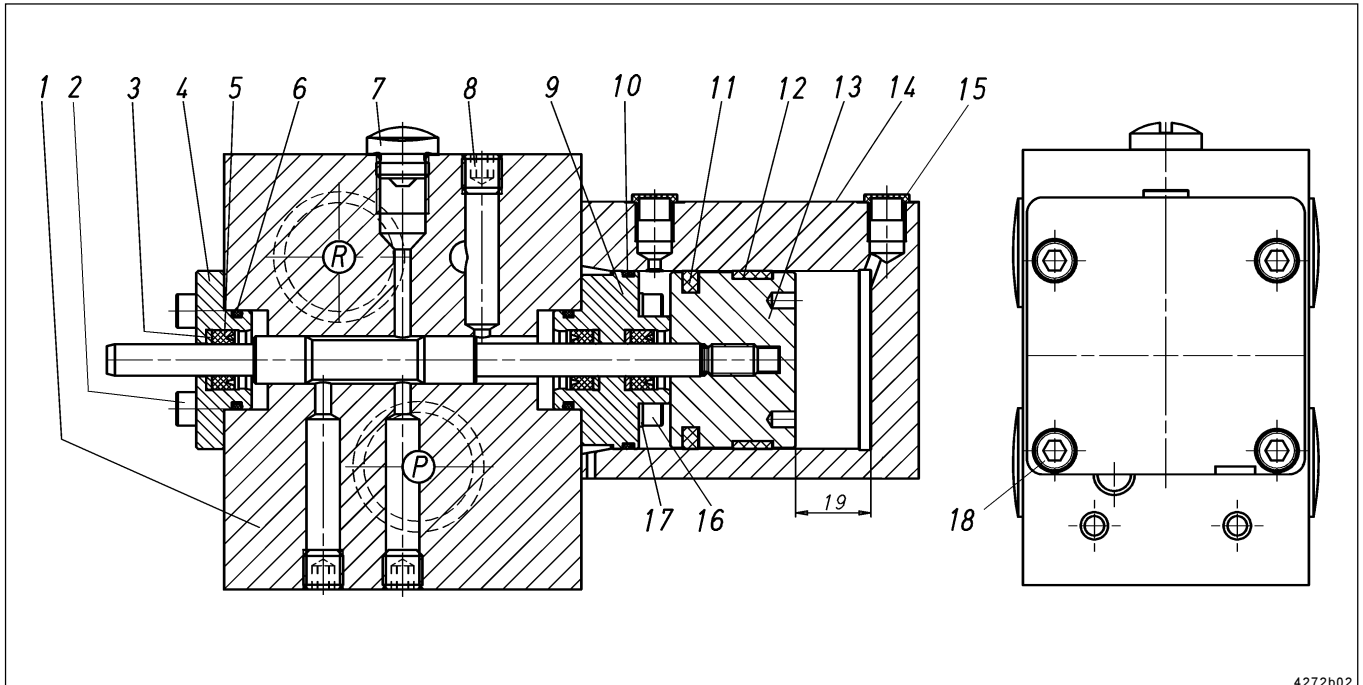

Fig. 4: Single parts of reversing housing
<ul style="list-style-type: none"> • Leakage in the line system or in the two-line metering devices • Piston in reversing housing worn 	<ul style="list-style-type: none"> • Check the main lines and the two-line metering devices • Replace the complete reversing housing (item 1, fig.4)